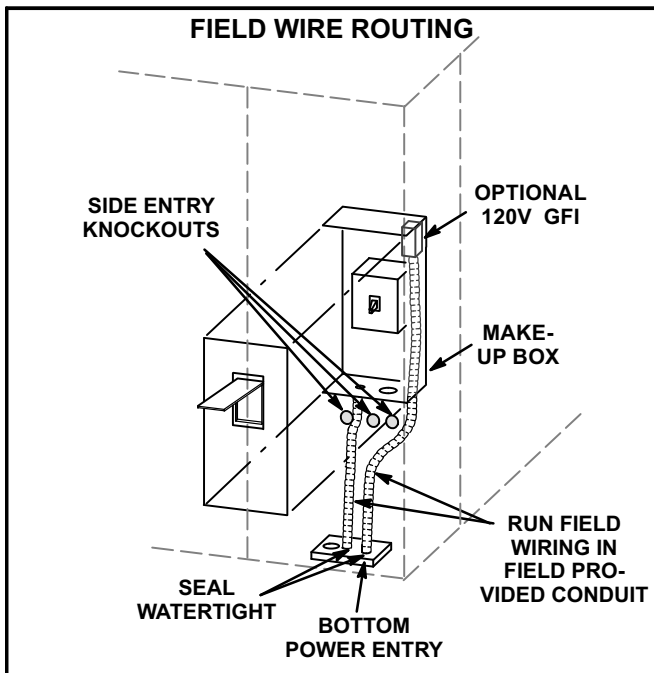

FIGURE 11
Route field wiring in conduit between bottom power entry disconnect. See figure 11. This does not supersede local codes or authorities having jurisdiction.
- 3- *Units With Optional 120v GFCI Outlet* - Route and connect separate 120v wiring to GFCI outlets which do not have factory-installed wiring. Route field wiring in conduit between bottom power entry and GFCI. See figure 11.